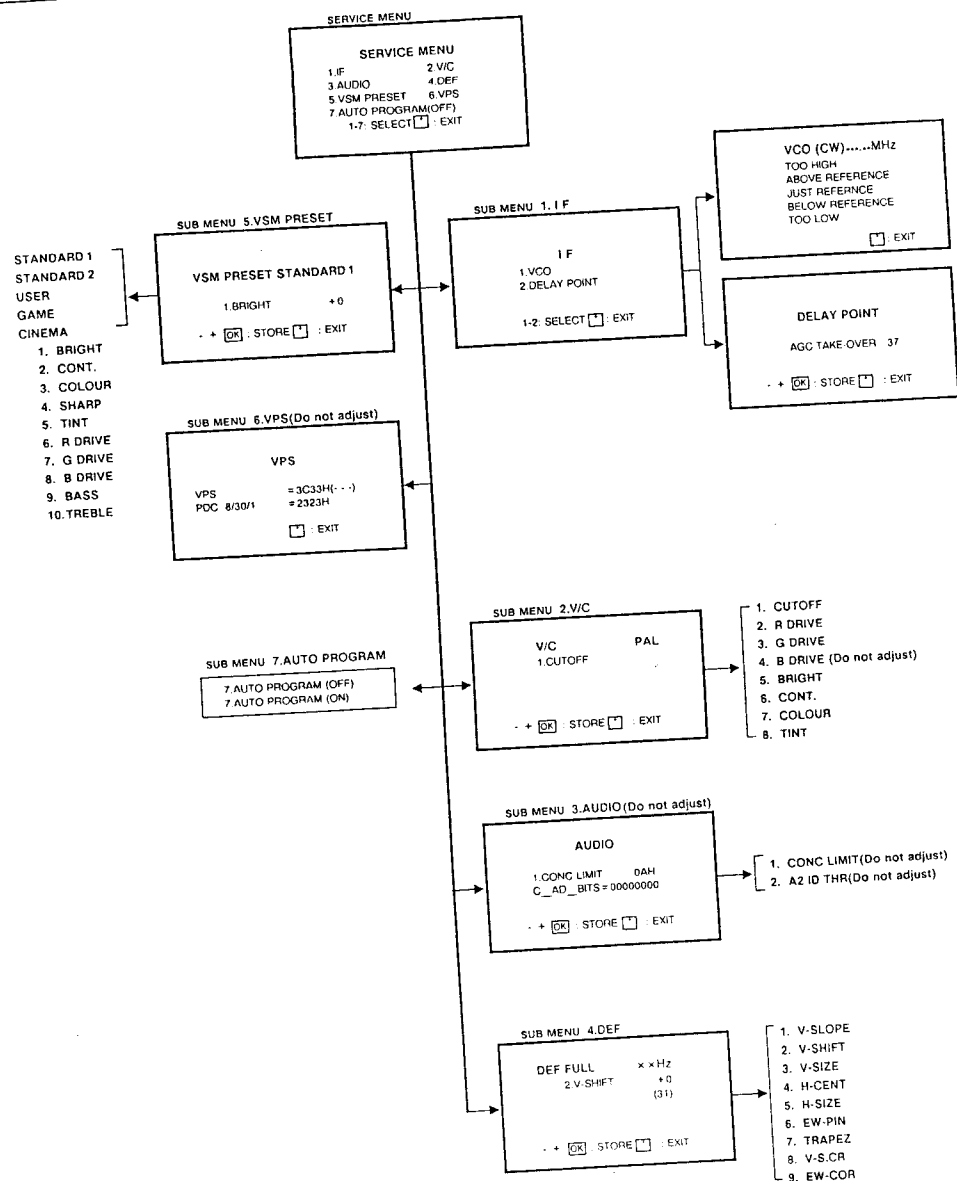

Fig. 3 SUB MENU SCREEN
- 1) Press one of the keys 1 ~ 7 of the REMOTE CONTROL UNIT, and select the SUB MENU SCREEN (See Fig. 3) from the SERVICE MENU.